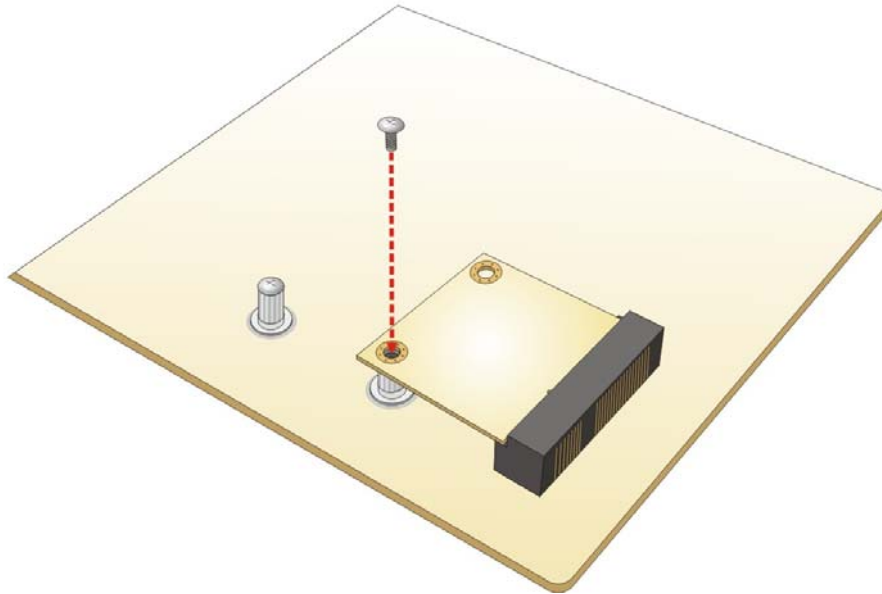

Figure 4-13: Securing the Half-size PCIe Mini Card
Step 4: **Secure the half-size PCIe Mini card.** Secure the half-size PCIe Mini card with the retention screw previously removed (**Figure 4-13**).